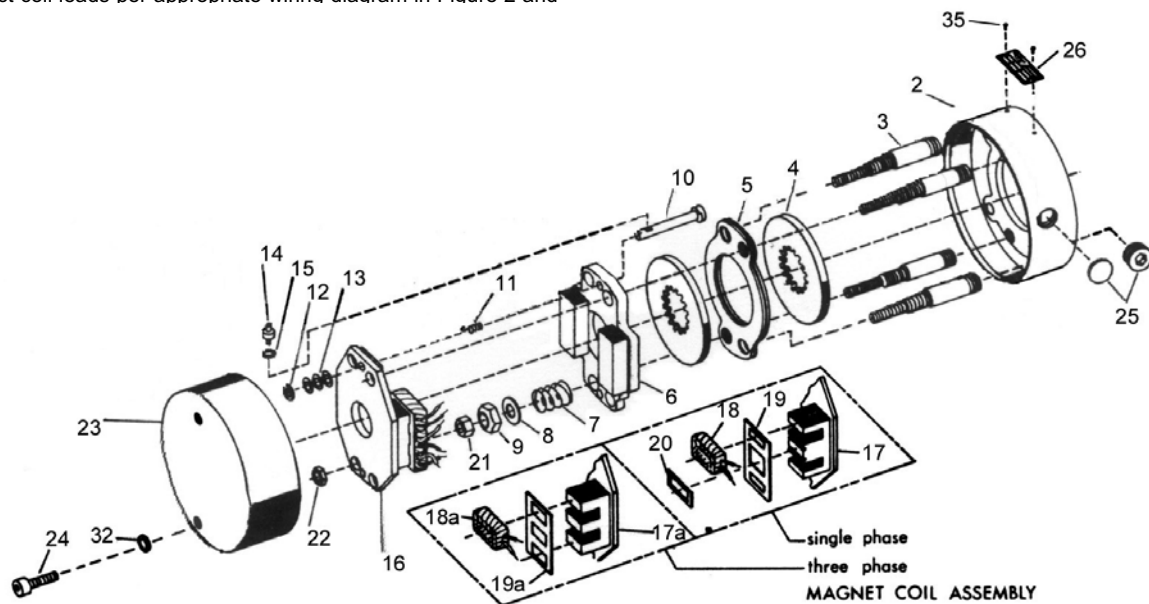

Figure 3. Exploded View of Brake
(See Figures 3, 5 & 6, Tables 1, 2 & 3)
(See Figure 3)
(See Figures 3 & 5)
(See Figures 3 & 5, Table 2)
When assembling a standard manual release mechanism (Figure 3), add only enough shim washers (13) to obtain proper release action. Too many shim washers will prevent automatic reset when electrical power is applied. Too few washers will prevent the motor shaft from turning freely. Replace stop screws (14). Wind each torsion spring (11) approximately 1/4 turn and hook spring loop over pin.
(See Figures 3 & 4)